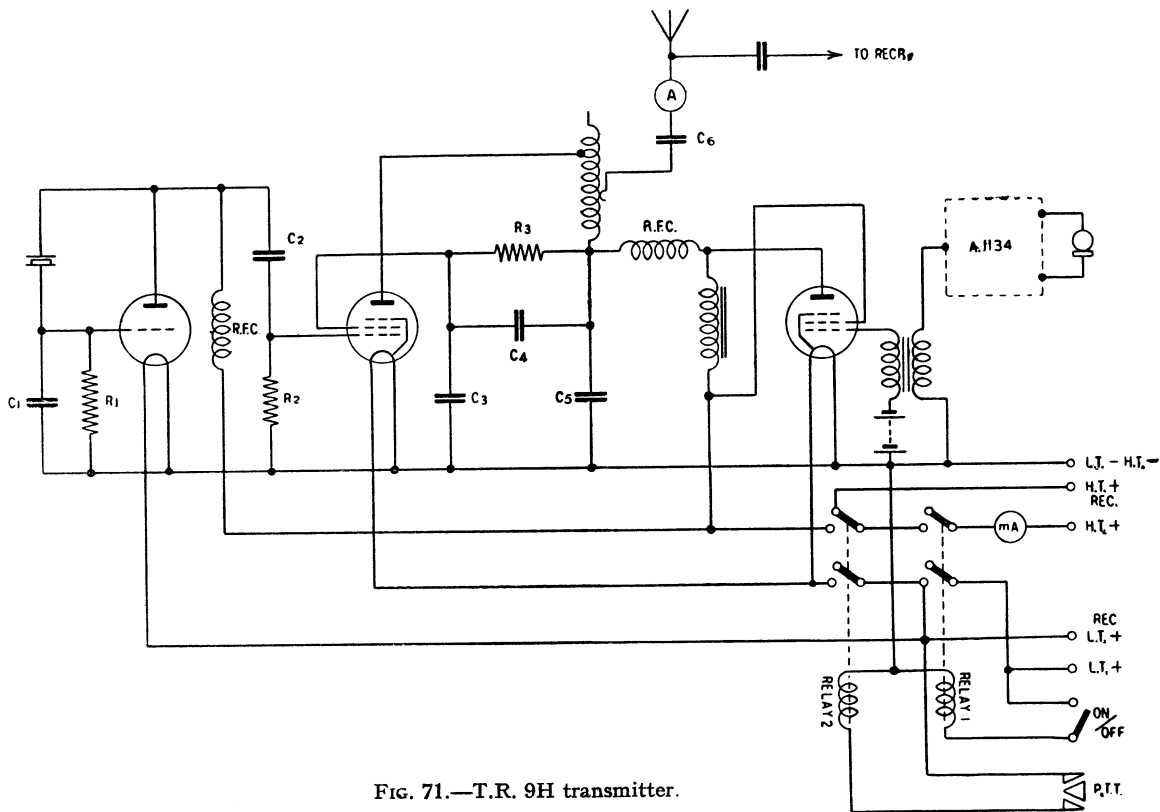

FIG. 71.—T.R. 9H transmitter.
7. **Transmitter Circuit** (fig. 71).—(i) A crystal controlled oscillator drives an anode modulated, class C, R.F. power amplifier.
(ii) *Action of remote switching.*—When the remote “on-off” switch is closed, the winding of Relay 1 (fig. 71) is energised by the 2-volt L.T. battery and the following circuits completed :—